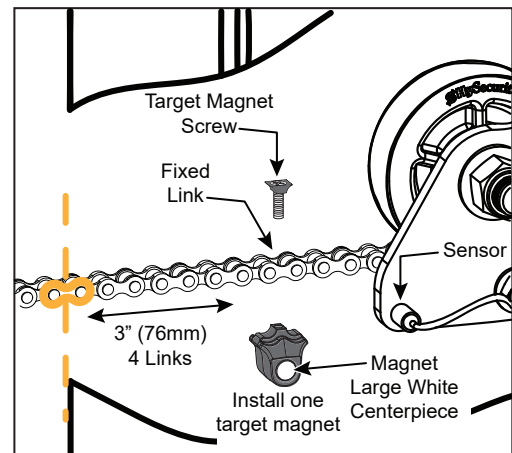

Figure 4. Install Target Magnet
4. Find mark on chain link and count about four fixed links toward operator (approximately 3 inches, 76mm). Figure 4.
5. Remove screw from target magnet. Figure 4.
6. Align target magnet with chain link, insert screw, and tighten it securely. To avoid damage to idler wheel, head of screw must be flush with chain rollers. Figure 4.